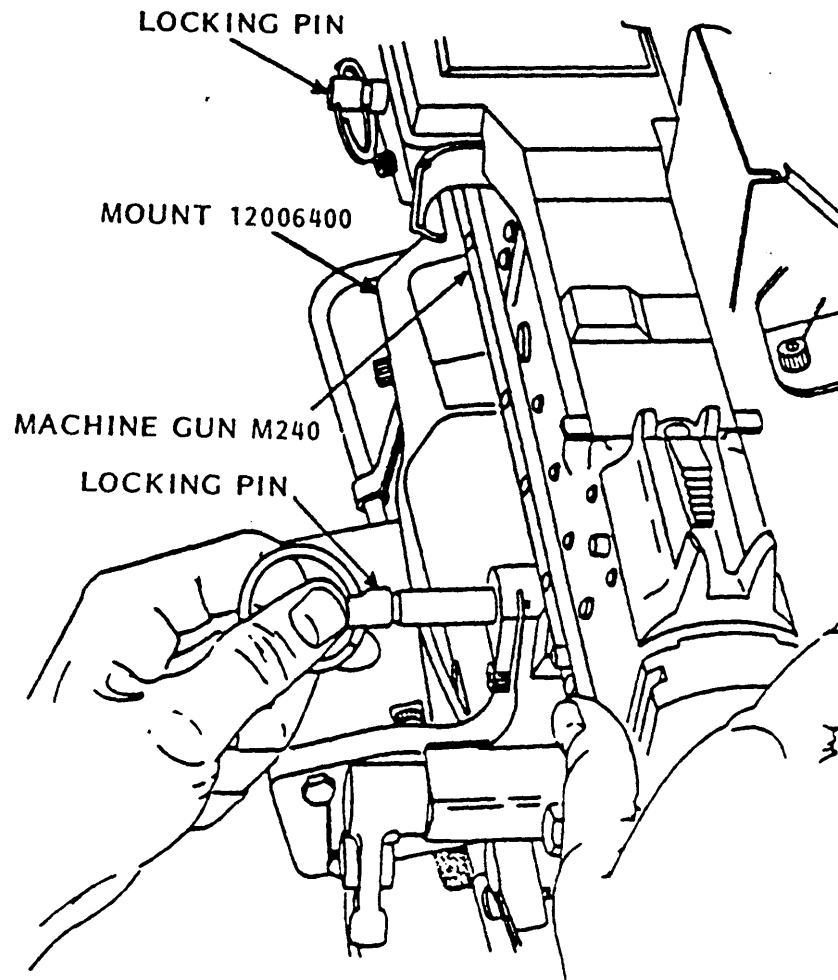

Figure 25. Installation of machine gun
- (18) Install the M240 machine gun into the mount and secure with the two pins (fig. 25).